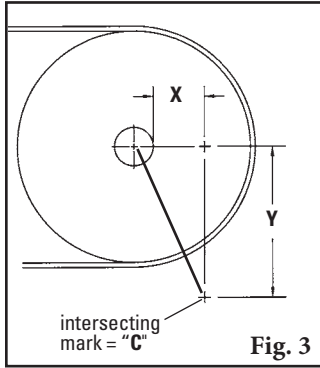

Fig. 3
5. **Determine Y dimension.** From the X mark, draw a line vertically down to the selected Y dimension and make a mark (Fig. 3). This is the correct position for the center of the pole. Verify "C" dimension from table on page 11 (imperial) or 12 (metric).